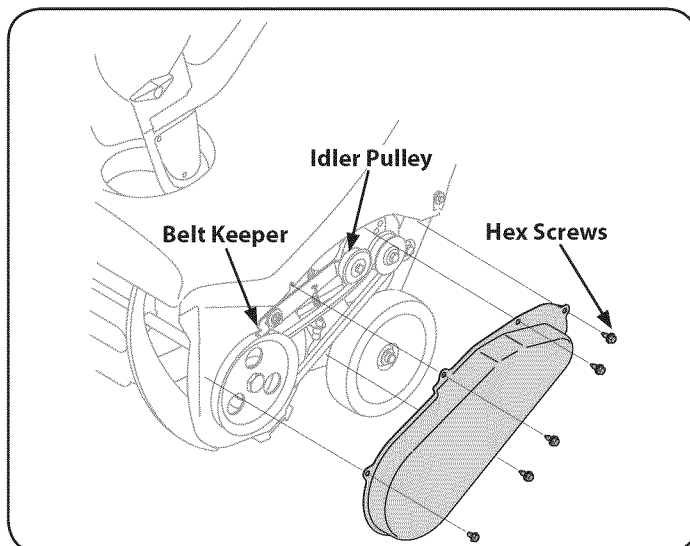

Figure 14
1. Remove the belt cover by removing the five hex screws that secure it to the frame. See Figure 14.
NOTE: Push down on the idler pulley to release the belt from under the belt keeper. See Figure 14.